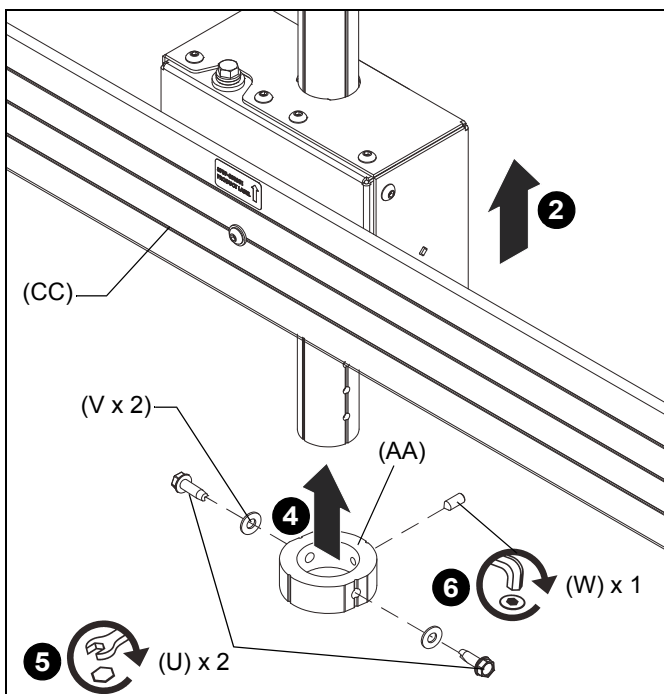
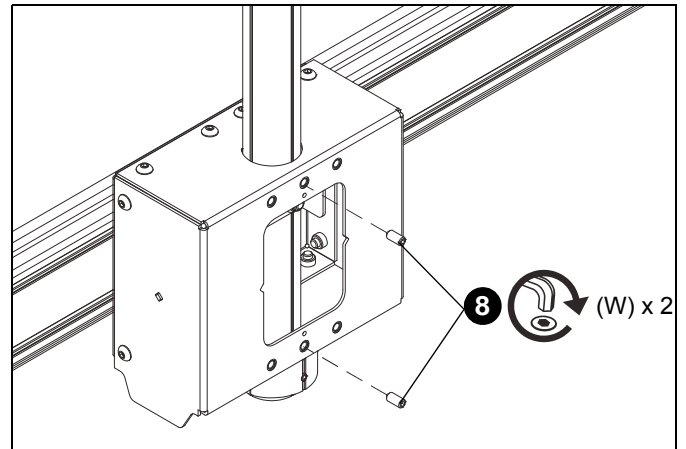

Figure 5
Figure 6
2. Slide ceiling mount (CC) up from below onto installed column (not included). (See Figure 5)
4. Slide bottom stop collar (AA) onto installed column, lining up holes in collar with holes in column.
5. Install two 5/16" x 1" self-tapping screws (U) through two 5/16" flat washers (V), bottom stop collar (AA), and into installed column. (See Figure 5)
6. Install and tighten 5/16" x 3/4" set screw (W) into bottom stop collar (AA). (See Figure 5)
7. Slightly loosen two installed set screws (W) from ceiling mount (CC), and slide ceiling mount down extension column until it rests on the bottom stop collar (AA).
8. Retighten two 5/16" set screws (W) against column. (See Figure 6)